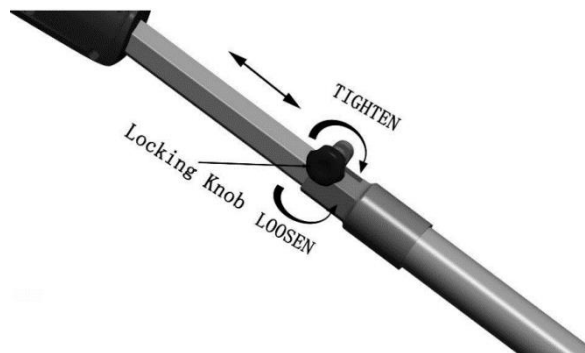

Figure 7
1. To extend the pole, loosen the locking knob (see figure 7). The pole will slide freely.
3. To lock the pole, tighten the locking knob (see figure 7).